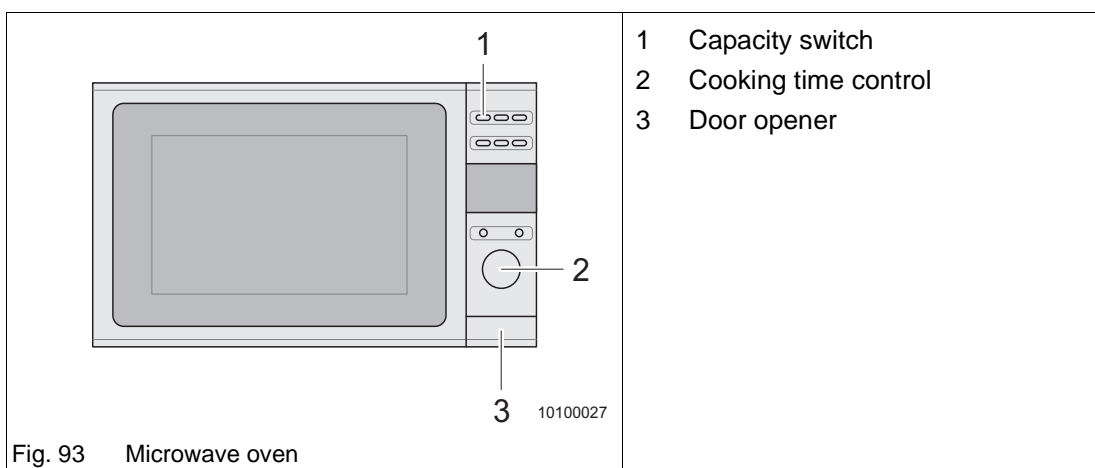

Fig. 93 Microwave oven
- ➔ Push the door opener (Fig. 93/3) to open the door and put the food in the cooking space.
- ➔ Press the capacity switch (Fig. 93/1) once or several times to select the capacity.
- ➔ Select the cooking time on the cooking time control (Fig. 93/2).
- ➔ Press the door opener (Fig. 93/3) and take the food out.